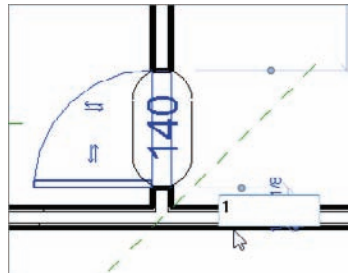

FIGURE 5.38 When you type a different value, the temporary dimension will move the object.
1. Zoom in on the left side of the west wing, as shown in Figure 5.38.
2. Select the door, as shown in Figure 5.38. Notice that there is a blue dimension on both sides of the door. These are temporary dimensions.
3. Pick the blue text in the lower temporary dimension, as shown in Figure 5.38. (The text might be obscured by the wall, but if you hover over it, it will activate and then you can select it.)